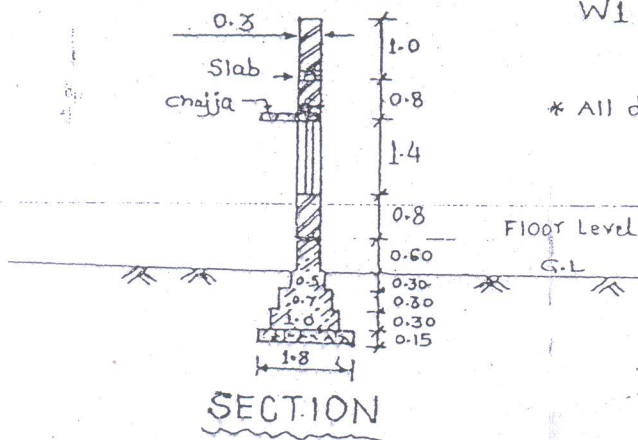

Fig No. 1
1. Figure No. 1 shows the plan and sectional details of a load bearing residential building. Calculate the quantities of following items of work by referring the drawings :-